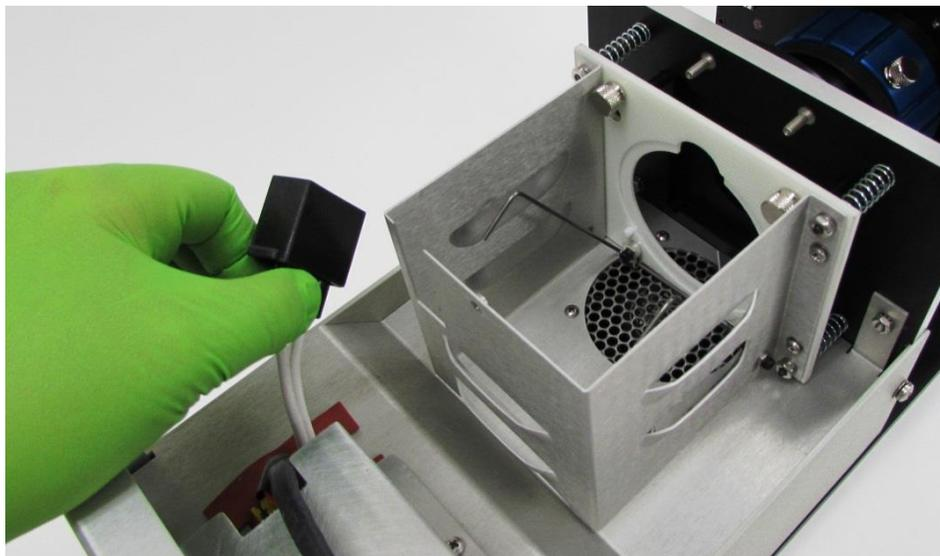

Figure 13: Unfasten Power Supply Cable
5. The power supply cable shown in Figure 13 is secured for transportation. Unfasten it and let it hang to the side for now.